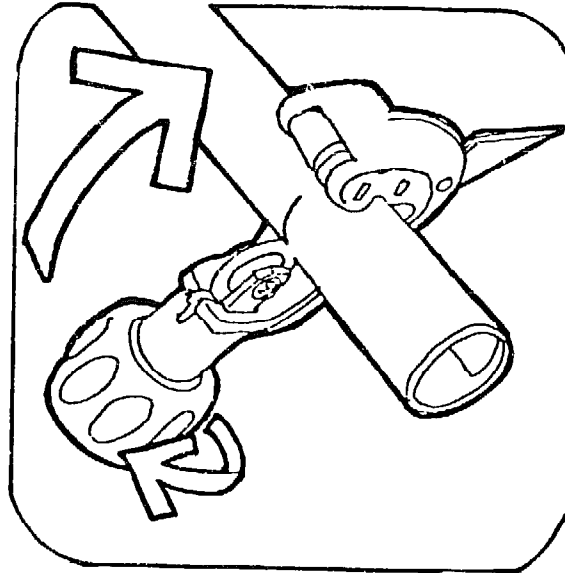

Figure 7
- 6.1 Cut two 89" lengths from each 20' section of copper tubing (that is, make 6 lengths). Cut and ream the inside of all cuts as shown in Figures 7 and 8.